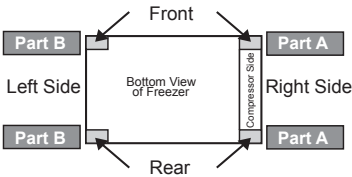

Figure 1
- Caster installation for the 13/15 cu. ft. freezer:** Remove casters and screws from the caster kit. The Part A casters are installed on the right front and rear compressor side of the unit. The Part B casters are installed on the left front and rear of the unit (with brake lever facing outside). Align the caster holes with the corresponding screw holes in the mounting locations. See figure 1.